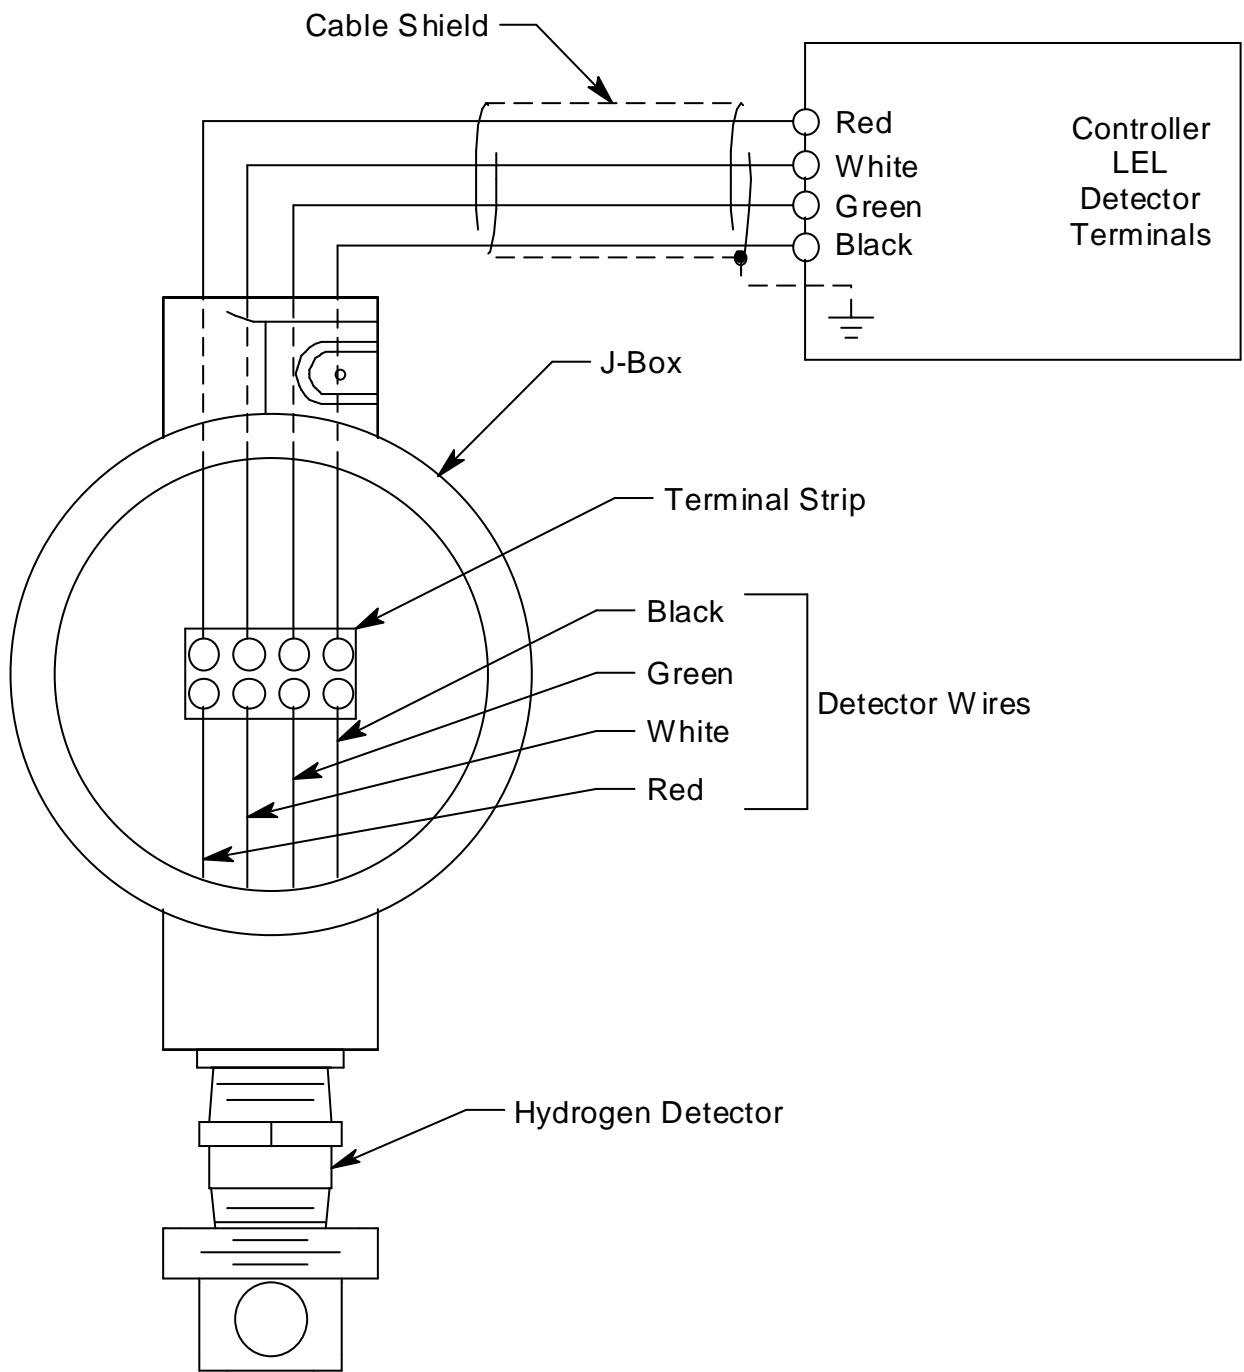

Figure 3: Wiring the Hydrogen Detector to a Controller
If the detector is mounted directly to a controller, it is normally factory wired. Confirm that the detector's wires are connected to the appropriate controller detector terminals and skip to "Start Up" on page 10. See Figure 3, the controller operator's manual, and the controller's detector head specification sheet for the NC-6205-05 detector for the wiring connections.
7. If the detector is installed directly on a controller, connect the detector leads to the appropriate detector terminal strip terminals. See Figure 3 for wiring to a generic controller. See the controller operator's manual and the controller's detector head specification sheet for the NC-6205-05 detector for wiring specific to your controller.
If the detector is installed remotely from a controller in a junction box, connect the detector leads to the terminal block the same way the old detector was wired (see Figure 3). See the controller operator's manual and the controller's detector head specification sheet for the 61-1001RK-05 detector to verify the connections to the controller are correct.